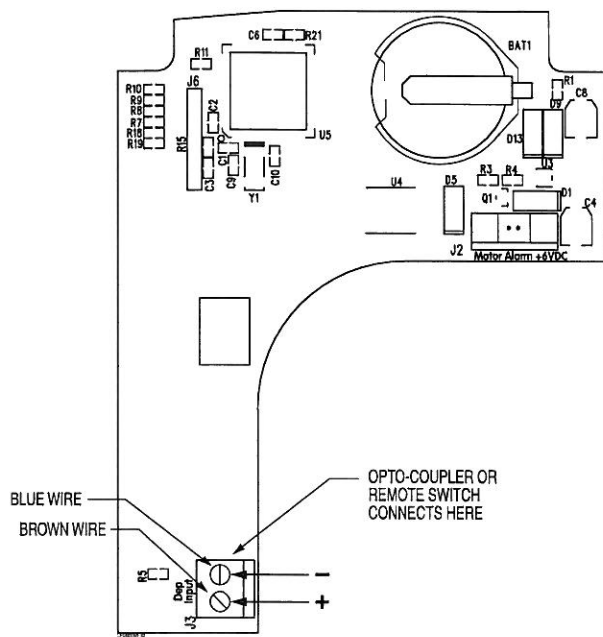

Figure 8c. Connecting Remote Switch or Opto-Couple (#067480)
When connecting the wire leads from the remote switch the orientation does not matter. Connect the wire leads to the terminal block marked "Dep Input" (J3) on the main circuit board (see Figure 8c).
2. Connect the leads of the white wire (blue and brown on Opto-coupler #067480) as indicated in the drawing. **The orientation is important.** The blue lead connects to the position closest to the coin cell battery (top) and the brown lead goes to the position closest to J3 (bottom). If these leads are reversed, the opto-coupler will not work and can be damaged. See Figure 8c.